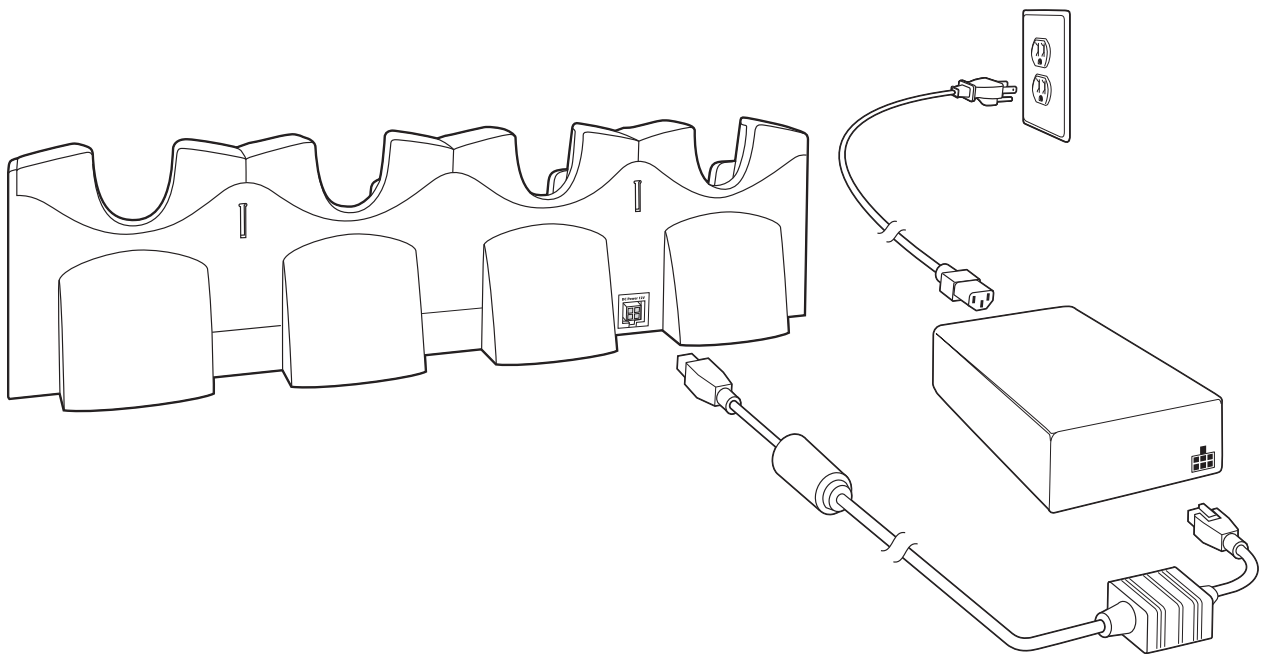

Figure 2-14 *Four Slot Charge Only Cradle Connection*
5. Connect power (see Figure 2-14 on page 2-15). The power supply should be located in the power supply well.